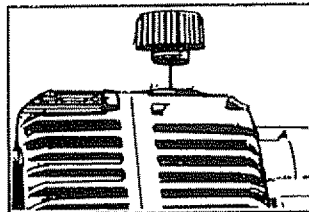

FIG. 4
- Remove cap from top of pump and insert oil fill cap included in parts bag (Fig. 4).